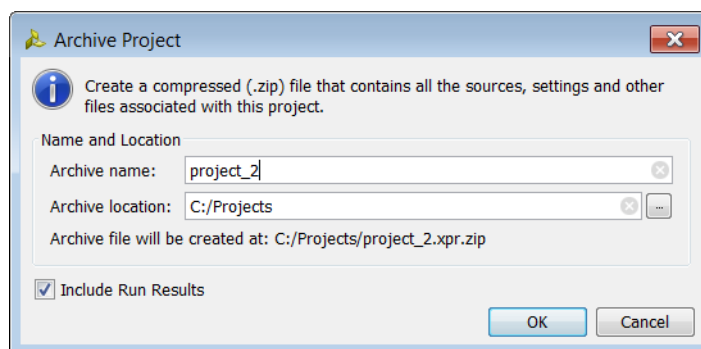

Figure 2-11: Archive Project Dialog Box
2. In the Archive Project dialog box (Figure 2-11), set the following options, and click **OK**.